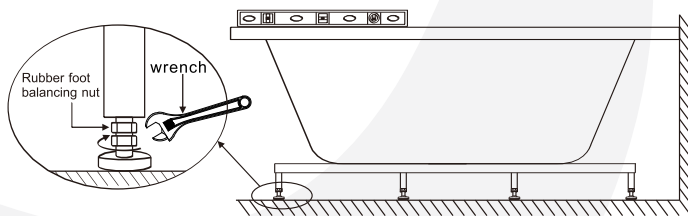

Figure 7
2. Adjust the balancing nut on the bottom to level the bathtub (as shown in Fig. 7). For better installation afterward, move out the bathtub a little first and move it back to the right position after the installation of accessories and the connection of water and electricity supplies.